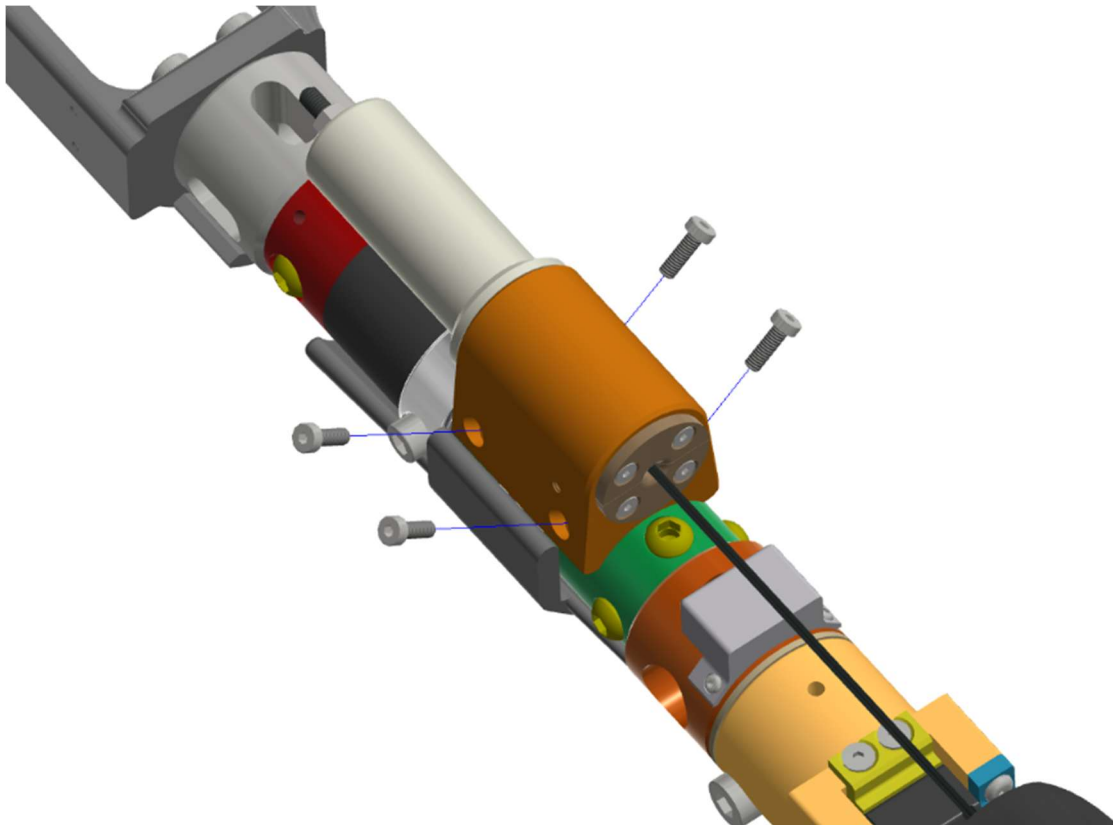

Figure 10-7. Remove the Achilles Assembly from the lower leg by removing four M4 X 0.7 X 12 LG. LHCS
10.2.3 Remove the Achilles Assembly from the lower leg by removing four M4 X 0.7 X 12 LG. LHCS (Figure 10-7).